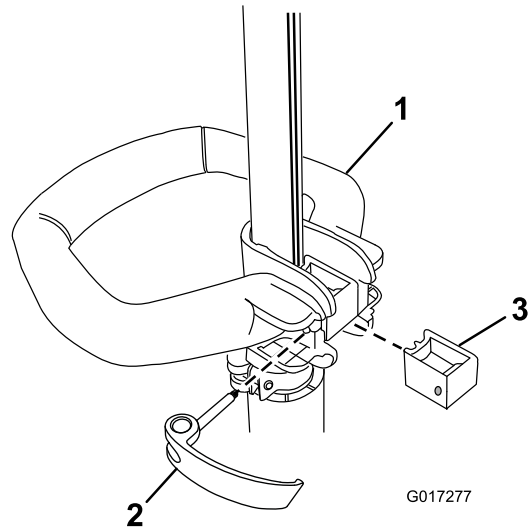

Figure 1
1. Position the auxiliary handle on the shaft of the trimmer with the smooth surface facing you (Figure 1).
2. Slide the brace into the auxiliary handle so that the brace rests in the groove along the shaft (Figure 1).
3. Slide the latch from the left through the handle and brace, and tighten the latch screw with a Phillips screwdriver (Figure 1).